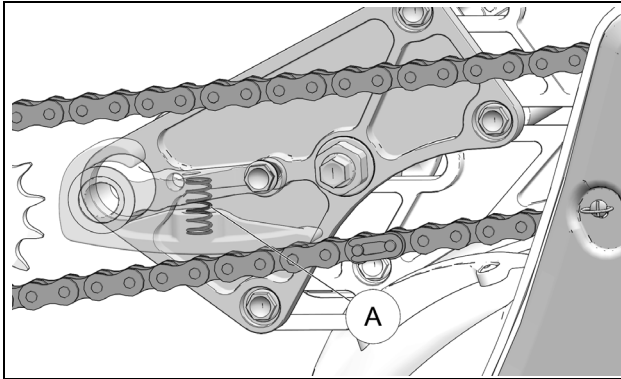

Figure 52
Verify that the Chain guard spring (A) is functional and not damaged. Replace if defective. Figure 52.